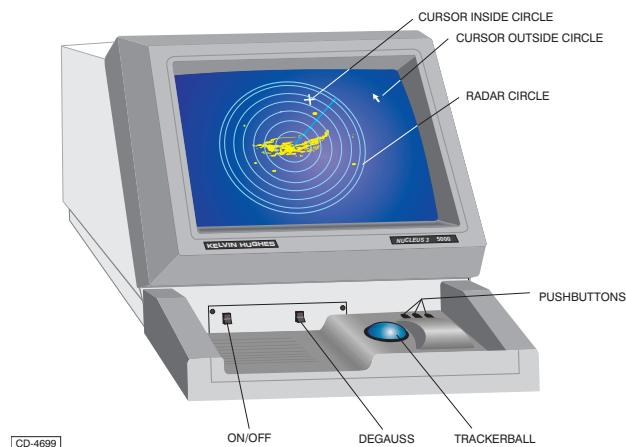
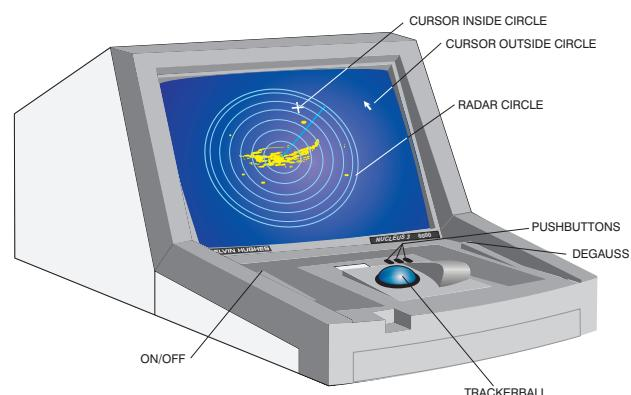

Figure 1 - Screen Control Unit (5000 Series)
Figure 3 - Screen Control Unit (6000 Series)
- (1) Locate the Access Plate (A) on the underside of the Screen Control Unit (SCU). Refer to Figures 1 and 2 (for 5000 series) and Figures 3 and 4 (for 6000 series).
- (2) Remove the screws that hold the access plate to the underside of the SCU.
- (3) A flying lead runs from the base of the Trackerball unit to the Trackerball PCB. Disconnect the flying lead from the Trackerball PCB.
- (4) Remove the four Trackerball Unit retaining screws.
- (5) The Trackerball Unit can now be withdrawn from the upper part of the Screen Control Unit.
- (6) Saturate the cotton buds with the cleaning fluid and clean the rollers and Trackerball.
- (7) Re-assembly of the SCU is the reverse of the procedures in sub-paragraphs (2) to (5) above.
- (2) Release the screws that hold the access plate to the SCU Baseplate.